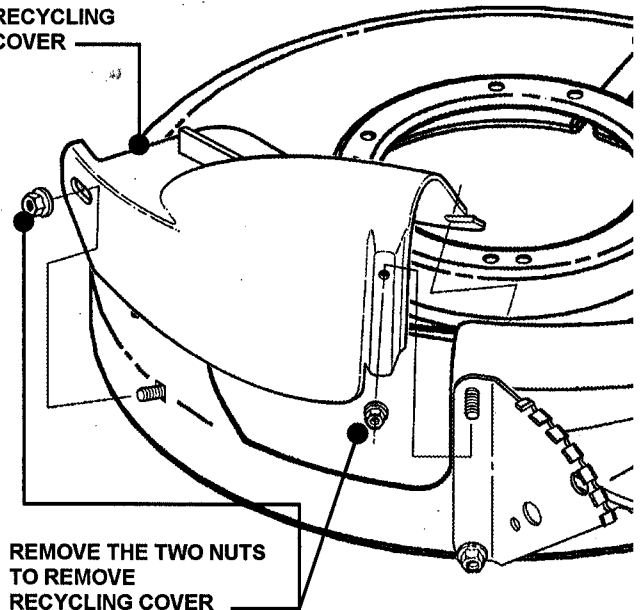

FIGURE 2
STEP 2: It will be necessary to remove recycling cover and save nuts for mounting bag adapter. See Figure 2.